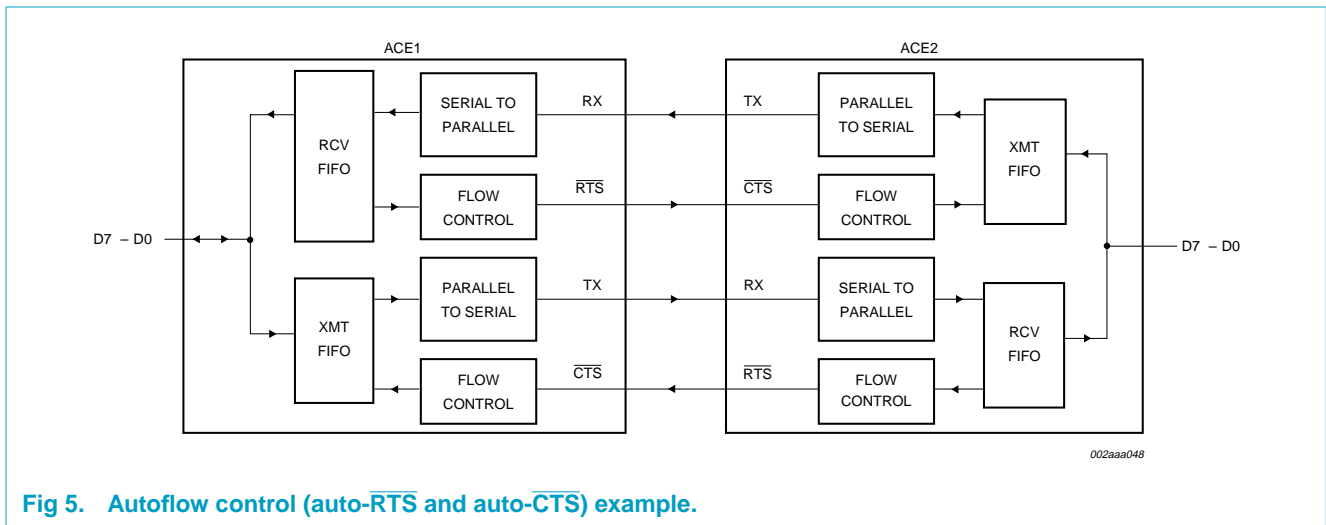

Fig 5. Autoflow control (auto- $\overline{\text{RTS}}$  and auto- $\overline{\text{CTS}}$ ) example.
### 6.3 Autoflow control (see Figure 5)
#### 6.3.1 Auto- $\overline{\text{RTS}}$ (see Figure 5)
6.3.2 Auto- $\overline{\text{CTS}}$  (see Figure 5)